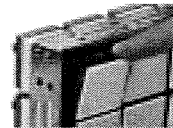

Figure 1: SLC40
**SLC40:** To remove an extended window, pull on the top as if to extend the unit; then continue pulling until the unit comes out of the housing. All units are shipped with windows retracted. When transporting units, make sure windows are pushed in fully. After windows are installed, they can be extended as shown in *Figure 1*.